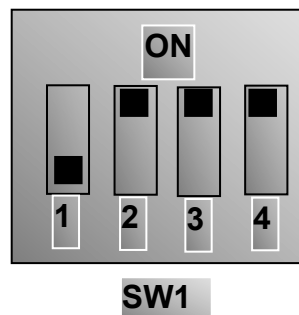

Figure 8-5
- vi. There is a red four-digit coding switch SW1 near the control terminal block, as shown in Figure 8-5. The function of coding switch is to select the input range (0~5V/0~10V/0~20mA) of analog input terminal AI1 and AI2. In actual application, select the analog input channel through F203. AI1 channel default value is 0~10V, AI2 channel default value is 0~20mA. Other states and modes of these switches are shown in table 8-3.